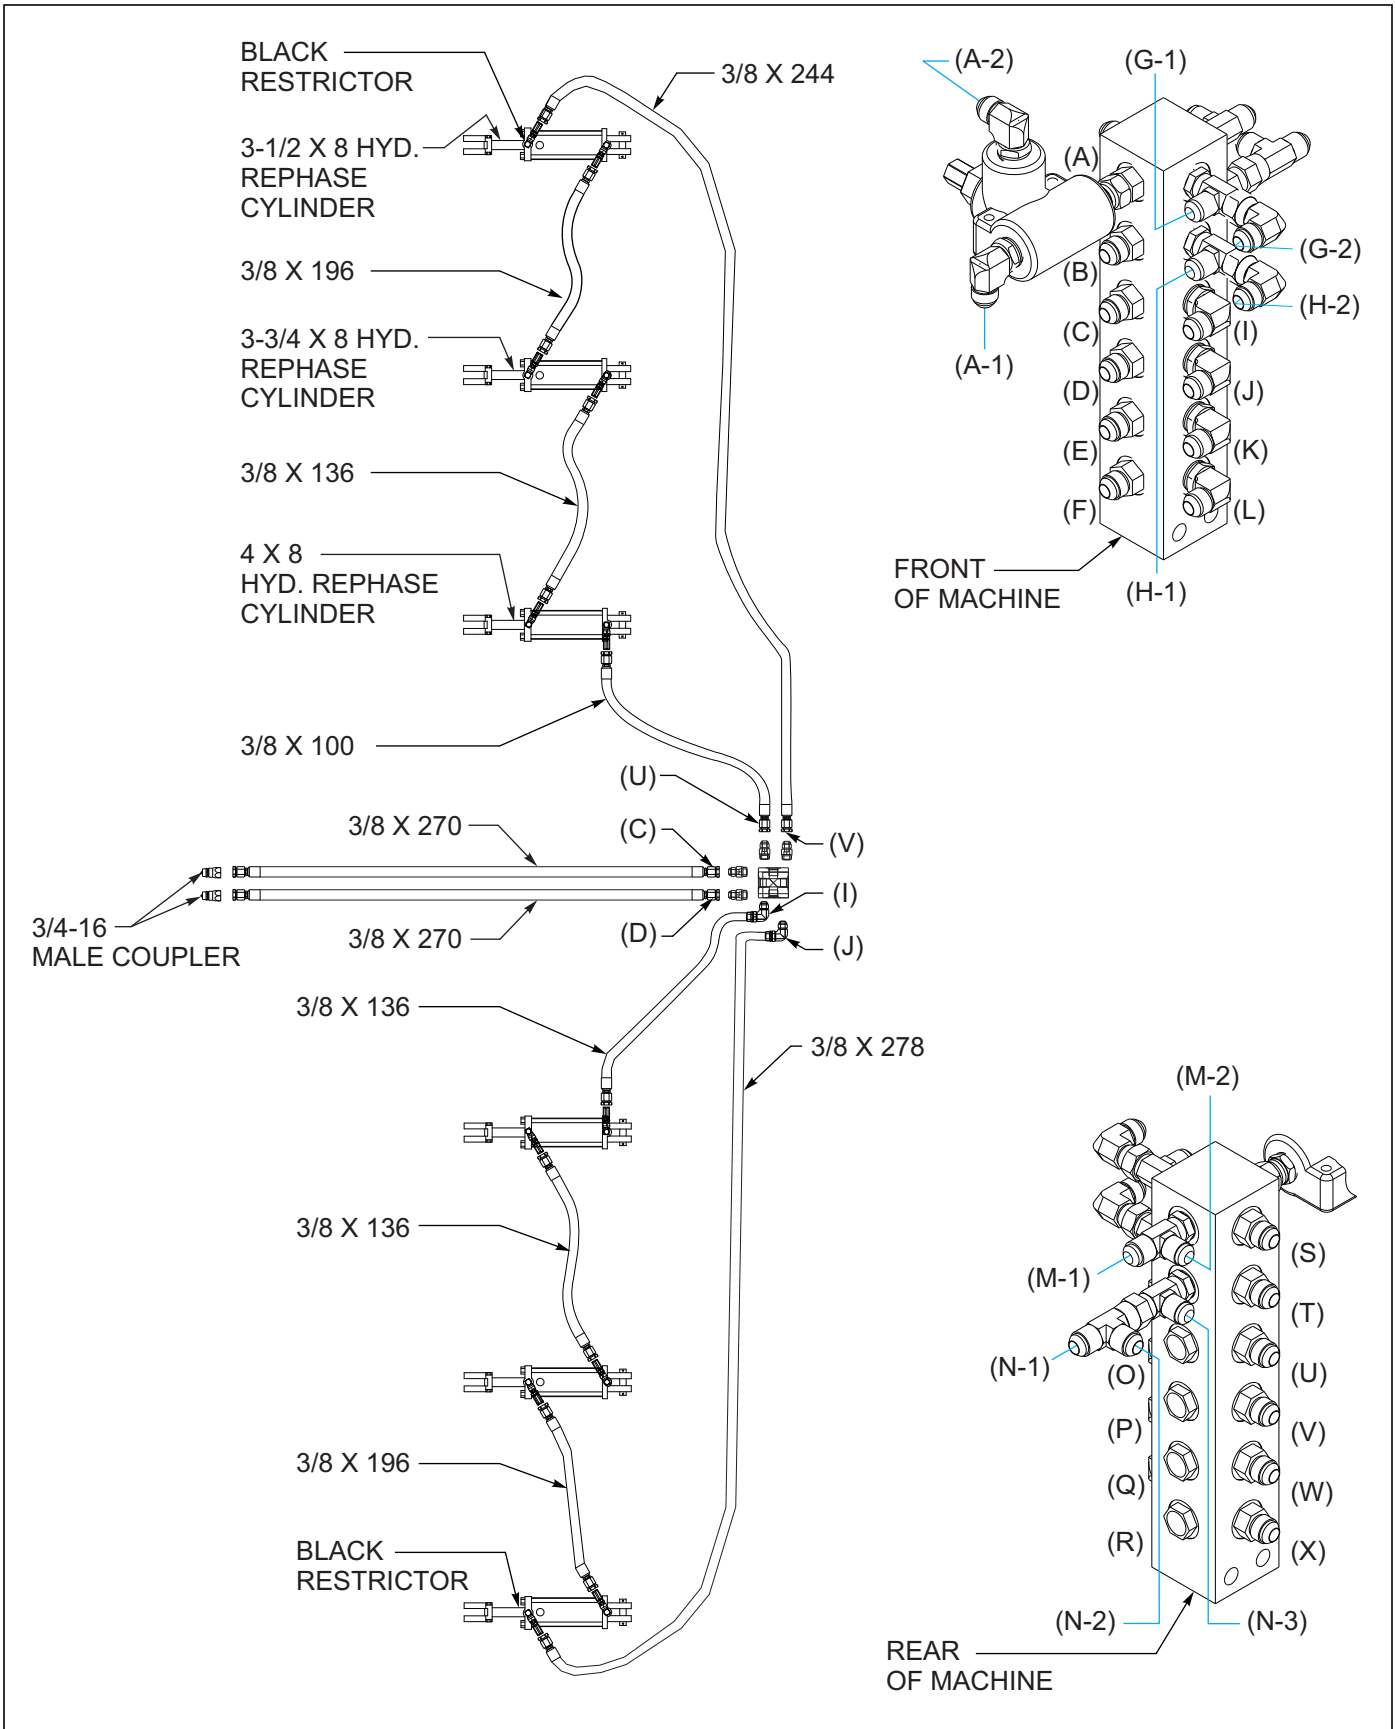

Figure 3-35: Hydraulic Gangs Installation - 38'
4. Install hydraulic disc gang adjustment cylinders as shown in Figures 3-35 thru 3-37. The center frame uses 4 x 8 cylinders, the inner wing is 3-3/4 x 8, and the outer wing is 3-1/2 x 8. Cylinders are installed with the base end attached to the adjustable link on the center frame and the rod is attached to the gang mount. Regular 90 degree fittings are used in all locations except for the rod end of the wing cylinders, where a black restrictor fitting is used on both sides.
- a. See Figures 3-35 thru 3-37 for proper hose routing.
3. For the hydraulic gang adjustment – connect the gang cylinders hoses to the tractor and charge the cylinders with oil **(See Figures 3-35 through 3-37.)** Watch the disc gangs carefully when initially charging with oil to make sure the gang do not bottom out on the frame when cycling.